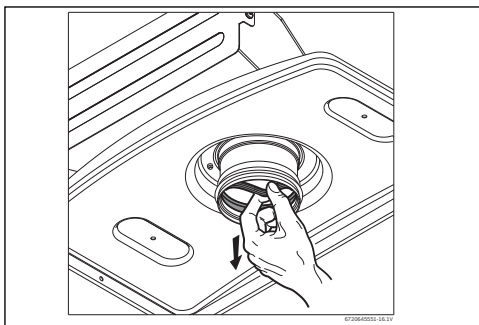

Fig. 5 Condensing appliances only (RTG 199HE)
- ▶ Remove inner seal, see Fig. 5.